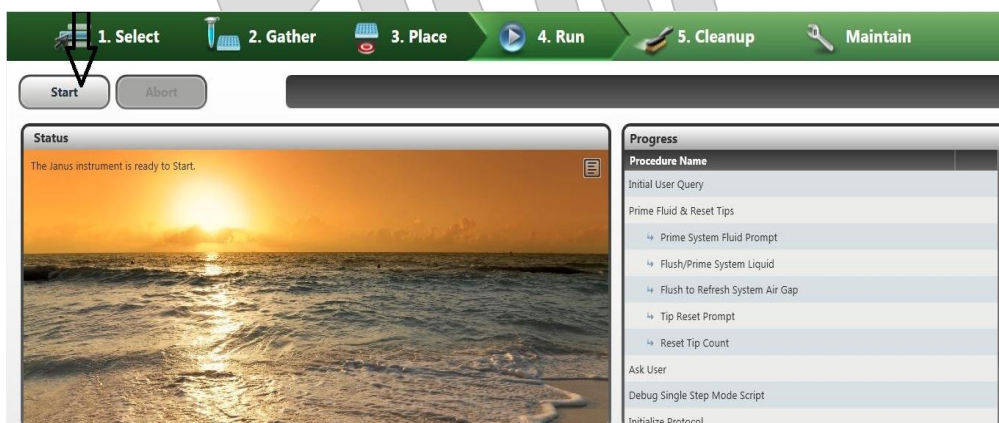

Figure 17: The protocol initiation
- 4.10. Click on the run button. Another window appears on the screen. Click on the start icon to begin the protocol as shown in Figure 17.